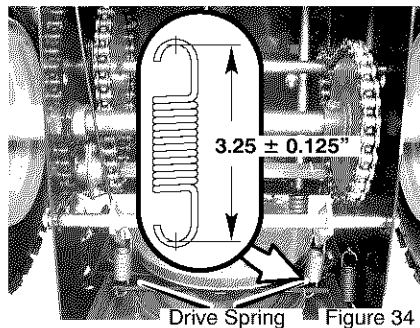

Figure 34
9. To check the adjustment, depress the drive lever and check the length of the **drive spring**. In correct adjustment, the length of the **drive spring** is  $3.25" \pm 0.125"$  (79.5 mm  $\pm$  3 mm) (see Figure 34).